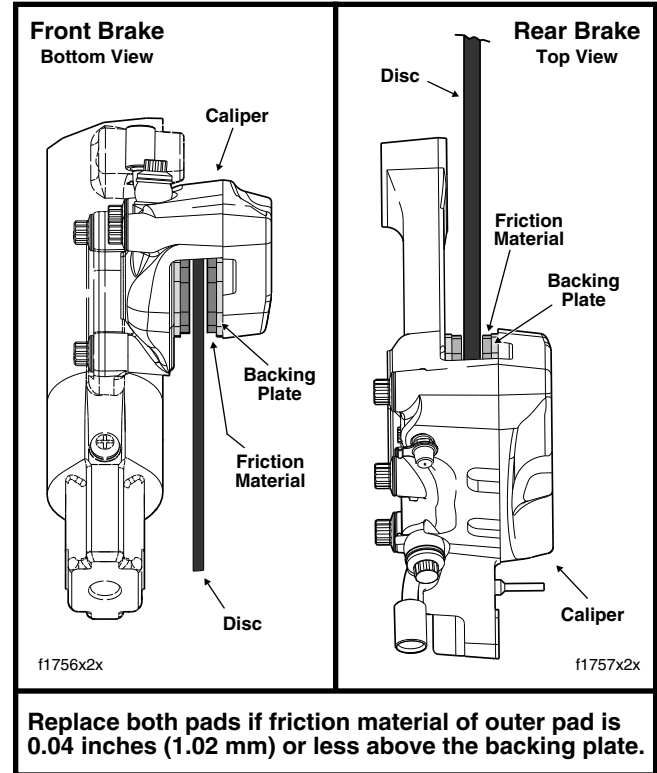

Figure 34. Measuring Brake Outer Pad
3. See Figure 34. If the brake pad friction material is 0.04 inch (1.02 mm) thick or less, **replace the pads immediately.**